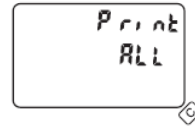

Fig. 20
1. In Fig. 20 press D button once will switch to UPLOAD MODE.
1. Press C button to go to the PRINT ALL mode as shown in Fig.20.